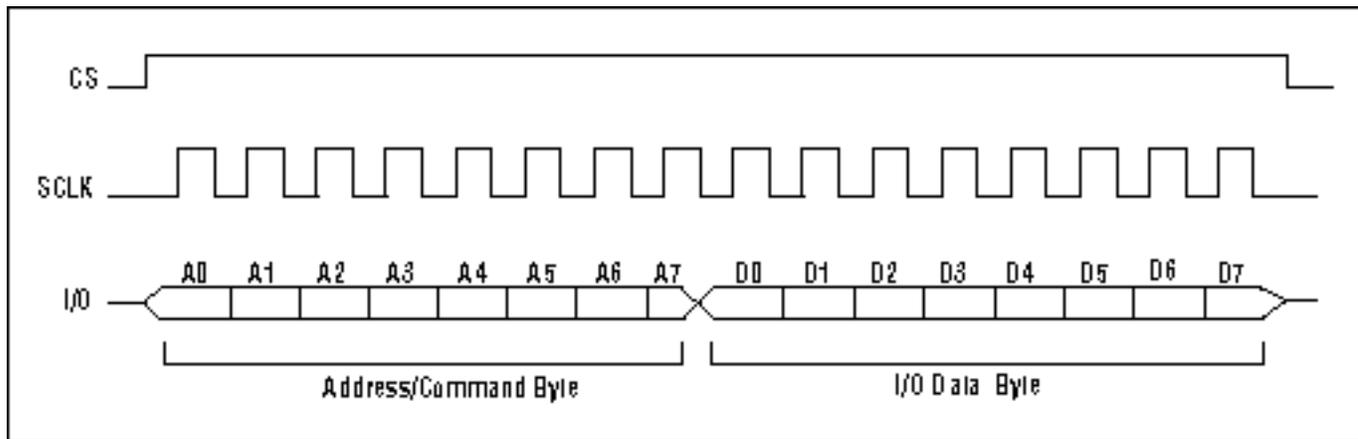

Figure 2. Single byte write.
**Figure 2** shows the 3-wire Single Byte Write. For this data transfer, the microcontroller has complete control of the RTC I/O line, which is configured as a data input. As with all data transfers, the Single Byte Write starts with an Address/Command Byte to tell the RTC that it is a write transfer and where the data is to be written. If more than 8 bits of data are written, only the first 8 bits will be written into the addressed register and the remaining bits will be ignored. If fewer than 8 bits are written before CS goes inactive (low), the data is ignored.